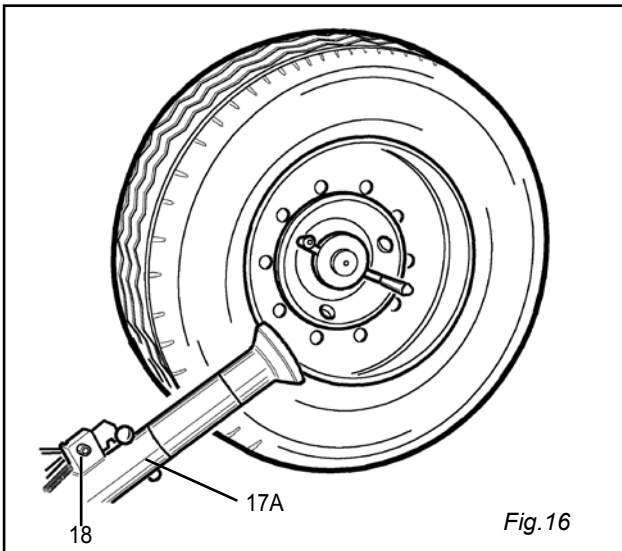

Fig. 16
- 3) By means of levers (3) and (4) make the roller tool position close to the rim edge and outsideface of the tire(fig.16)